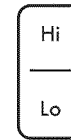

Fig. 6
4. To set power level press **Hi** or **Lo** keypad and if needed toggle the **Hi** or **Lo** keypads to adjust to the desired power level setting. Each touch of the **Hi** or **Lo** key pad will decrease or increase the power level by 1/2 from 9.0 through 3.0. Simmer power levels between 3.0 and 1.2 will decrease or increase by .2 increments. Hi (Fig. 5) is the highest power level. Lo (Fig. 6) is the lowest power level available.